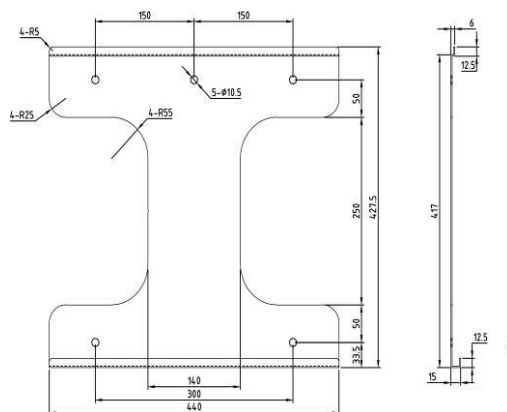

Fig. 5 Wall mounting bracket
- Place the wall mounting bracket (see Figure 5) against a suitable wall with explosion screws, aim the groove of the hanging backboard of the inverter at the convex edge of the wall mounting bracket, then attach the inverter to the wall mounting bracket.